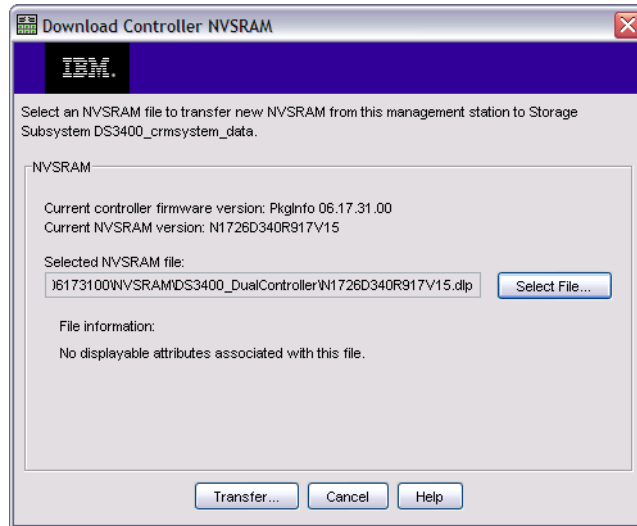

Figure 14-23 Download Controller NVSRAM
1. To download a new NVSRAM file to your storage subsystem, click **Download Controller NVSRAM** (Figure 14-12 on page 309) to open the associated window (Figure 14-23). Click **Select File** to select the new NVSRAM file.